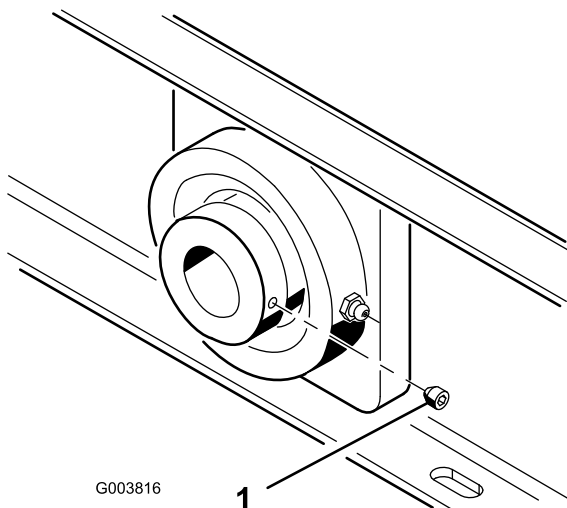

Figure 15
- The fan shaft bearing set screws (Figure 15) must be torqued to 58 to 82 in-lb.